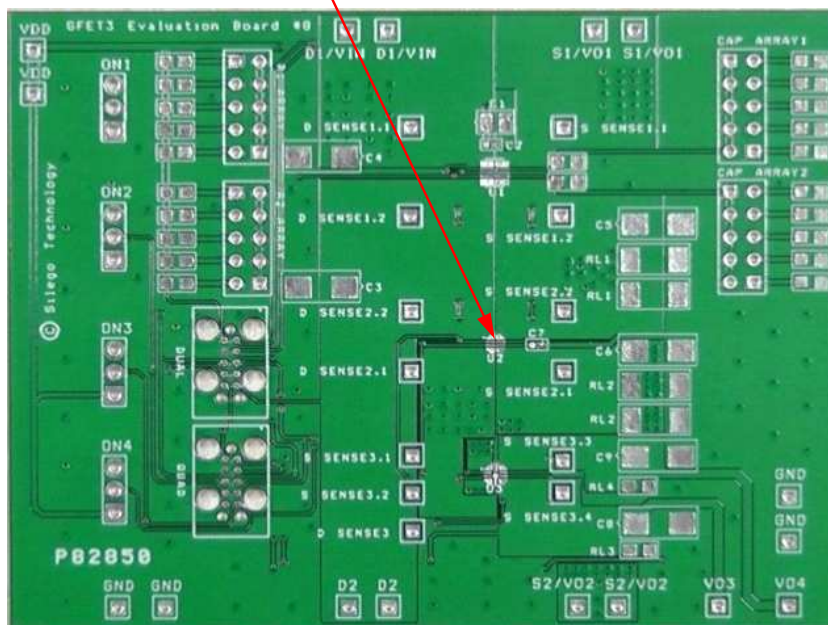

Figure 1. SLG59M1446V Evaluation Board.
2. Since the D1, D2, S1 and S2 pins dissipate most of the heat generated during high-load current operation, it is highly recommended to make power traces as short, direct, and wide as possible. A good practice is to make power traces with absolute minimum widths of 15 mils (0.381 mm) per Ampere. A representative layout, shown in Figure 1, illustrates proper techniques for heat to transfer as efficiently as possible out of the device;
A GreenFET Evaluation Board for SLG59M1446V is designed according to the statements above and is illustrated on Figure 1. Please note that evaluation board has D_Sense and S_Sense pads. They cannot carry high currents and dedicated only for RDS_{ON} evaluation.